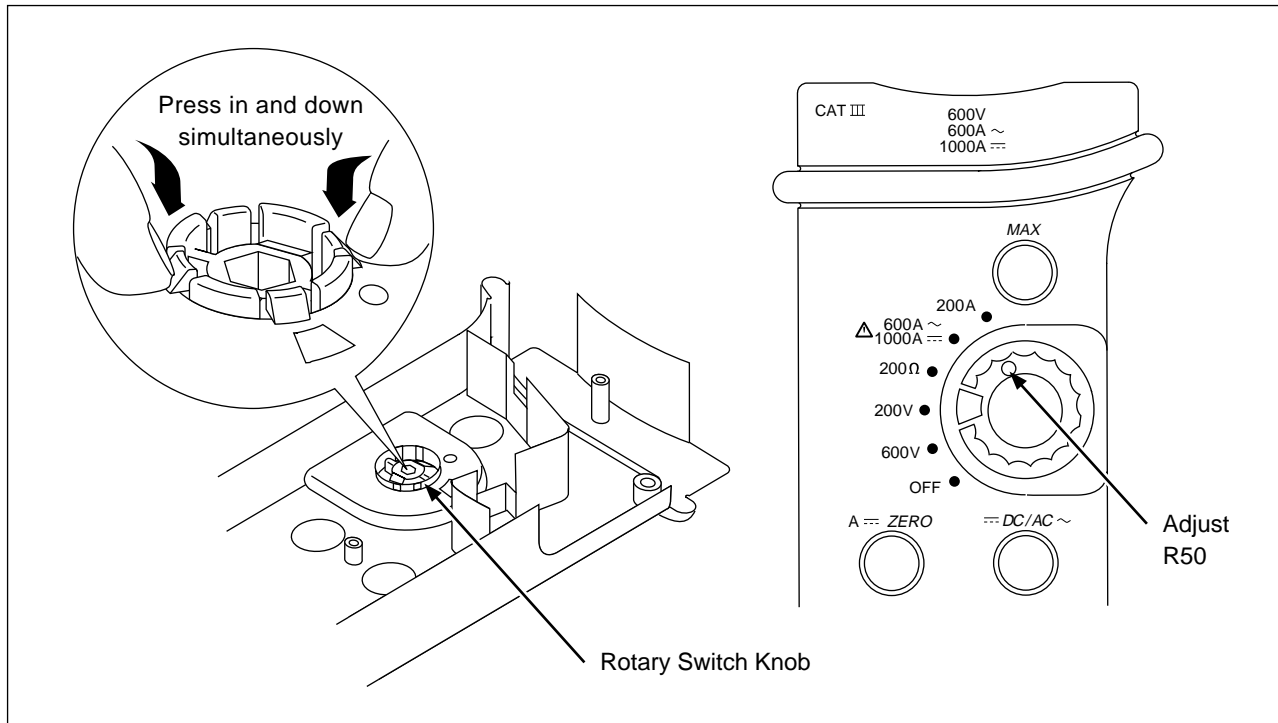

Figure 3. Removing the Rotary Switch Knob and Adjusting R50
15. Using your thumbs, firmly press in and down on the plastic flanges to unsnap the rotary switch knob from the case top. (See Figure 3.)
19. With 4A applied to the Current Coil, adjust R50 through the hole in the case top (see Figure 3) until the display reads between 199.1 and 200.1.